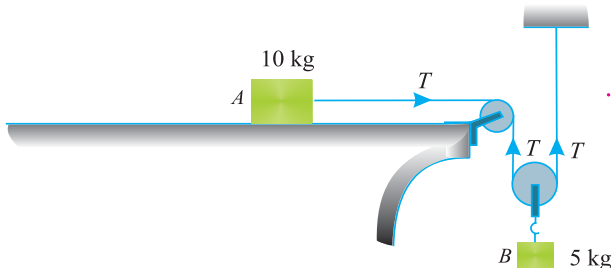

Fig. 25.8.
**Example 25.6.** A block of wood A of mass 10 kg is held on a rough horizontal table. An elastic string connected to the block passes over a smooth pulley at the end of the table and then under a second smooth pulley carrying a body B of mass 5 kg as shown in Fig. 25.8.